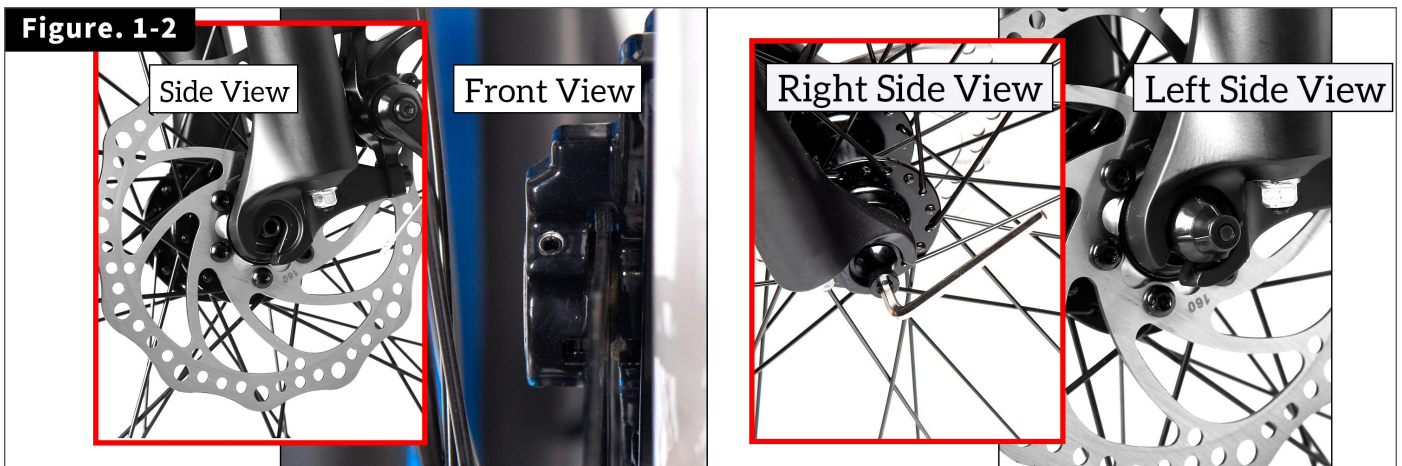

Figure. 1-2
(2) Remove all of the inside cardboard protection and bubble wrap on the bike.
(3) Please locate and set aside the kit box containing the battery charger, pedals, and tool kit, etc.
(4) Remove the rubber protection pad from the front wheel.
(5) With the steering fork facing forward, insert the front wheel between the fork blades so that the axle seats firmly at the top of the fork dropouts.
(6) While pushing the wheel firmly to the top of the slots in the fork dropouts and at the same time centering the wheel rim in the fork (Figure. 1-2).